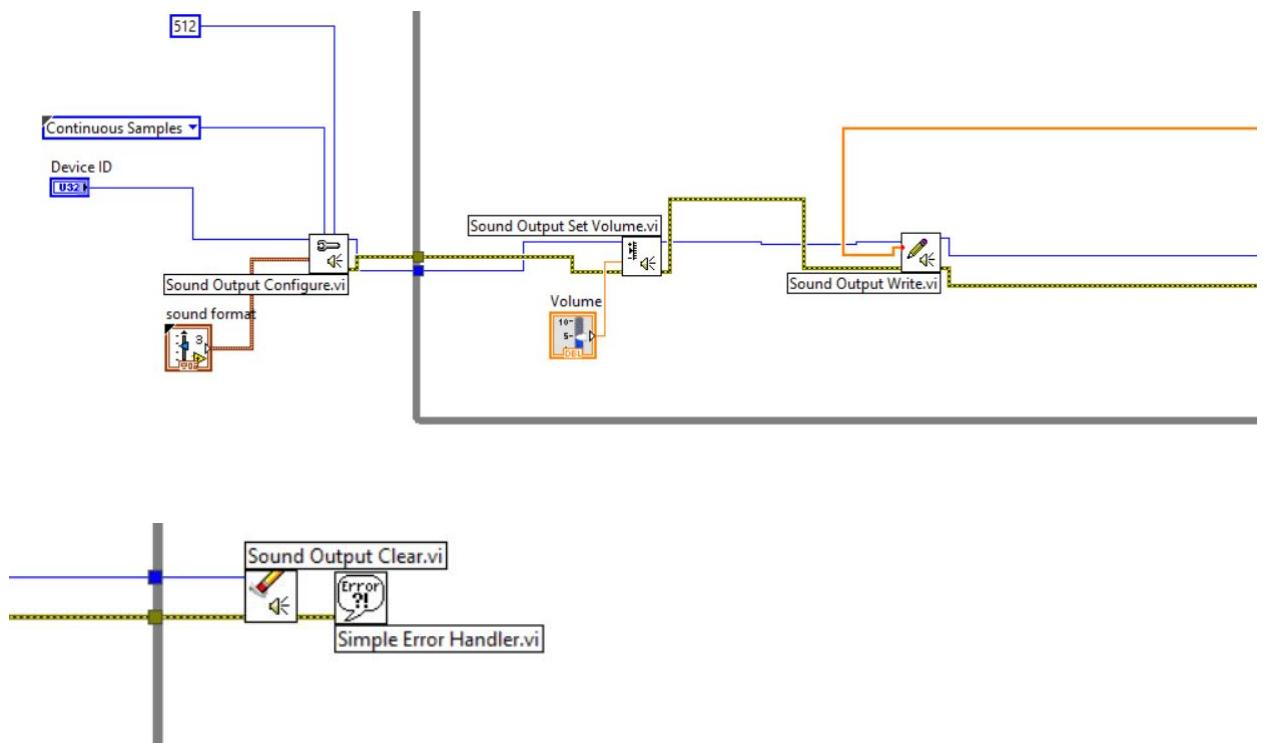

Fig.1. Sound Configuration
11. Insert “**Sound Output Clear.vi**.” Input Task ID and error in of this vi should be connected with output Task ID and error out of the **Sound Output Write.vi**. Finally, insert “**Simple Error Handler.vi**” and connect error out of **Sound Output Clear.vi** to the error in of **Simple Error Handler.vi**. The whole procedure is shown in Fig. 1.